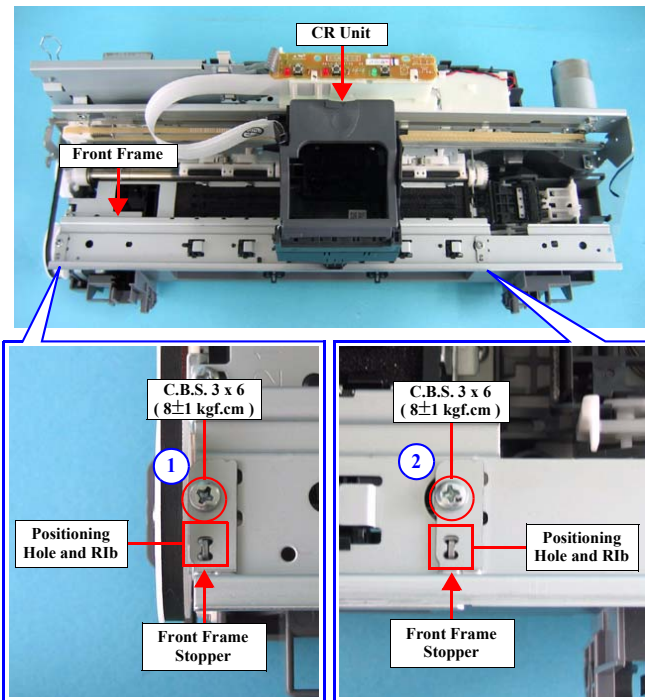

Figure 4-59. Removing Front Frame
- Match the positioning hole with the rib as shown in Figure 4-59 when installing the Front Frame.
- Secure the screws in the order shown in Figure 4-59.